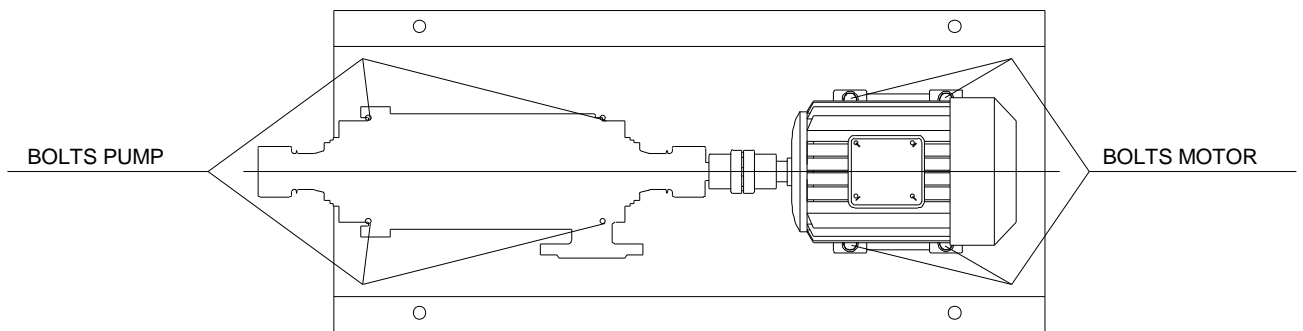

Fig. 19
- 8 - Place the electric motor on the baseplate and bring the two coupling halves together with approx. 2 mm/0.078in. gap between them keeping the motor axially aligned with the pump shaft. In the event the two shaft heights do not align, proper shimming under the pump or motor feet will be required. Mark the motor and/or pump anchoring bolt holes. Remove motor and/or pump, drill and tap the holes, clean and mount pump and/or motor in place and lightly tighten the bolts (see fig. 19).